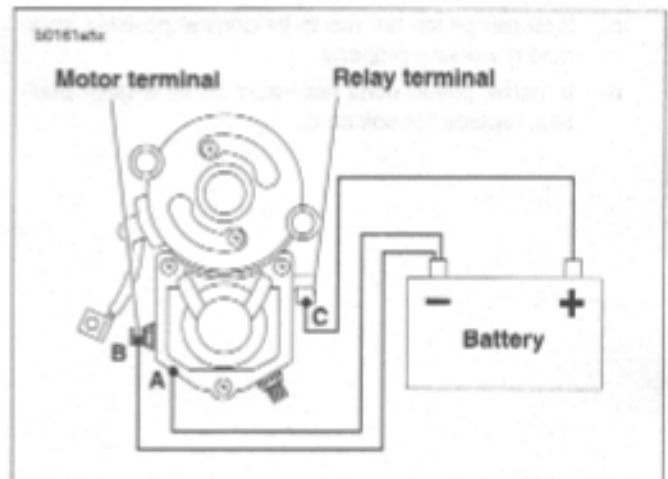

Figure 5-11. Pull-in Test
Do not disassemble solenoid. Before testing, disconnect field wire from motor terminal as shown in Figure 5-11.
1. See Figure 5-11. Using a 12 volt battery, connect three separate test leads as follows: